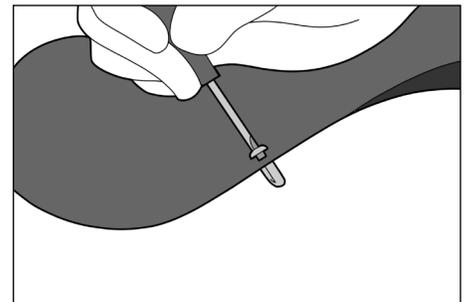

Fig. 16
5. Tighten the screw using 1/8" flat blade screwdriver until snug. (Fig. 16).